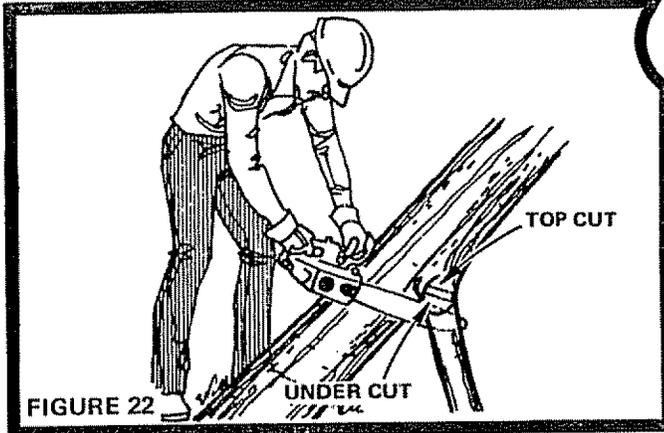

FIGURE 22
2. Large lower branches which support the felled tree's weight should first be top cut. Then, undercut them so the cut opens away from the saw. In that way, your saw won't be closed on or pinched (Fig. 22).